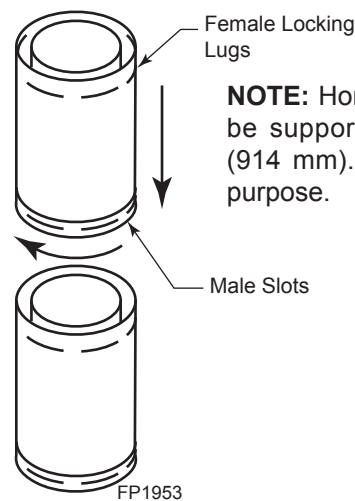

Figure 18 - Rigid Vent Pipe Connections
Twist-lock Procedure: The female ends of the pipes and fittings have three locking lugs (indentations). These lugs will slide straight into matching slots on the male end of adjacent pipes and fittings. Push the pipe sections together and twist one section clockwise approximately one-quarter turn until the sections are fully locked. *Figure 18*
2. Assemble the desired lengths of pipe and elbows necessary to reach from the burner system flue up through the firestop. Be sure pipe and elbow connections are fully twist-locked. Page 18, Figure 18